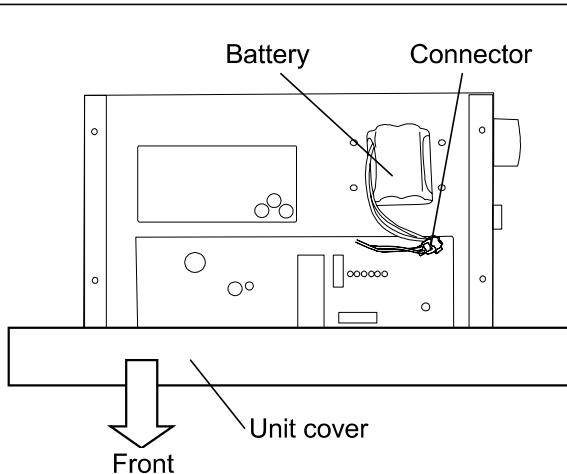

Fig. 4
6. Disconnect the connector of battery. (Fig. 4)